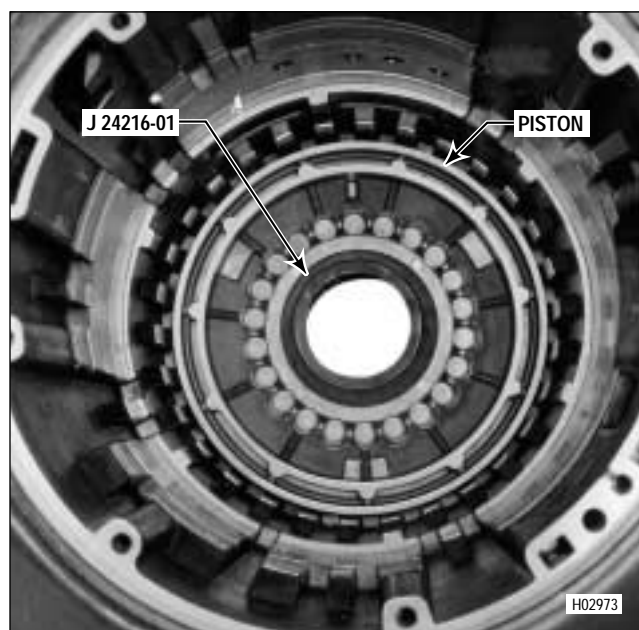

Figure 7-1. Installing First Clutch Piston
(1) Place the transmission housing assembly into the holding fixture, converter housing upward.
(2) Place inner seal protector tool J 24216-01 over the hub in the transmission housing (Figure 7-1).
(3) Install the inner and outer lip-type sealrings into the grooves in the first clutch piston. A color-coded, outer lip-type sealring (blue) is used on the piston after S/N 3210201937. The lips of both sealrings must face toward the rear of the transmission when the piston is installed. (Refer to sealring cross-sections on Foldout 10,B.) Lightly lubricate the surface of the piston bore and protector J 24216-01 with transmission fluid before installation.
(4) Install the piston and sealrings into the transmission housing rear bore, engaging the piston tang into the slot in the housing (Figure 7-1). Be sure the lip of the sealring on the outside diameter of the piston is not distorted. Remove the protector tool.